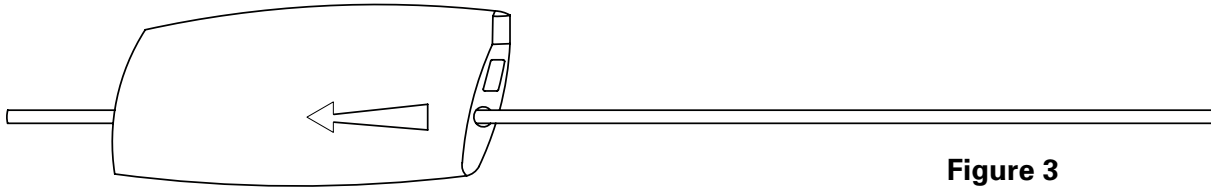

Figure 3
3. Route the bare end of the main support cable through the included clamp, then around the mounting structure, and back through the clamp. (Fig 3 and 4)
5. Route the bare end of the safety cable through the included clamp, then around a suitable support structure, and back through the clamp. (Figure 3 and 4)